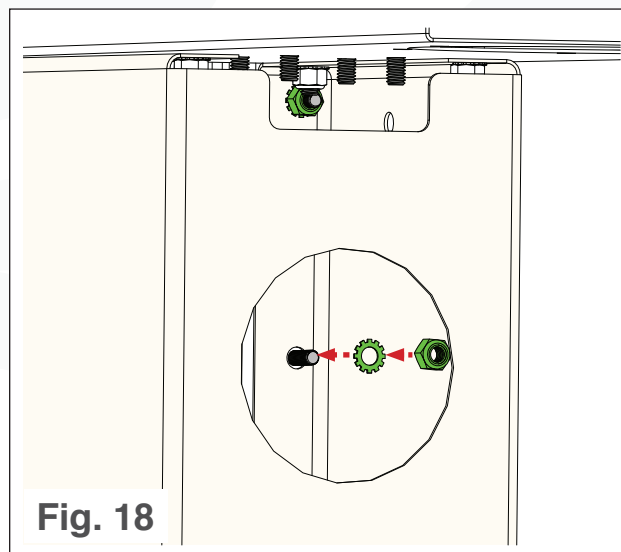

Fig. 18
5. Reaching through the two large holes in the motor support, secure the star lock washers and nuts over the ends of the bolts (see Fig 18).